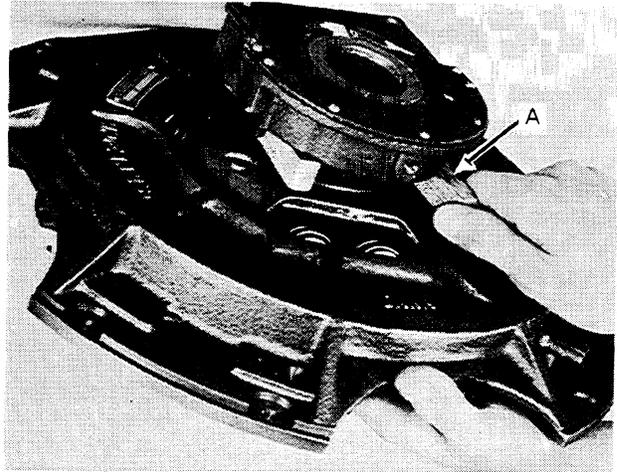

Figure 13:
11. Raise arbor. Tilt assembly and remove 3/4" wooden blocks (see Fig. 13).